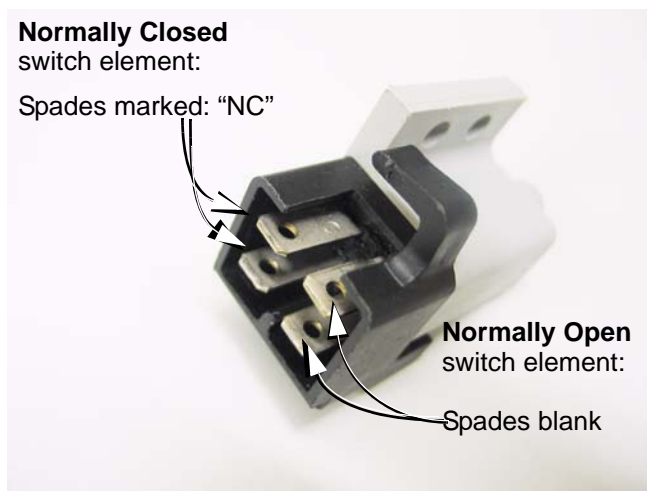

Figure 7.60
- The male spade terminals that are associated with each-other face each-other broad-surface to broad surface. See Figure 7.60.